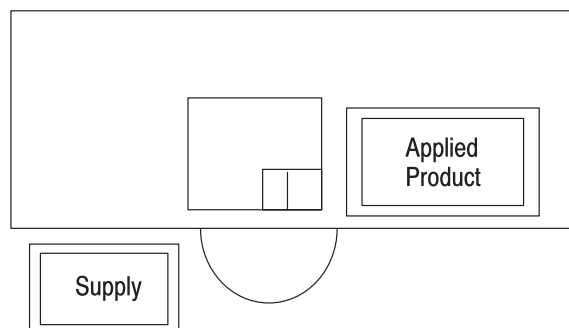

Figure 8
The location of the machine in relation to the operator’s position is extremely important in terms of both safety and maximum efficiency. Studies have repeatedly shown that operator fatigue will be reduced, and greater efficiency achieved, if: (1) the bench is of appropriate height, preferably with sound-deadening rubber mounts; (2) the machine is properly located on the bench with ample work areas on both sides to facilitate work flow; (3) the operator uses a swivel chair with padded seat and back rest which are independently adjustable; and (4) the foot switch, on machines so equipped, is placed on a rubber mat to maintain its movability, while preventing it from sliding unintentionally. Figure 7 illustrates proper machine location and operator position. Figure 8 illustrates: